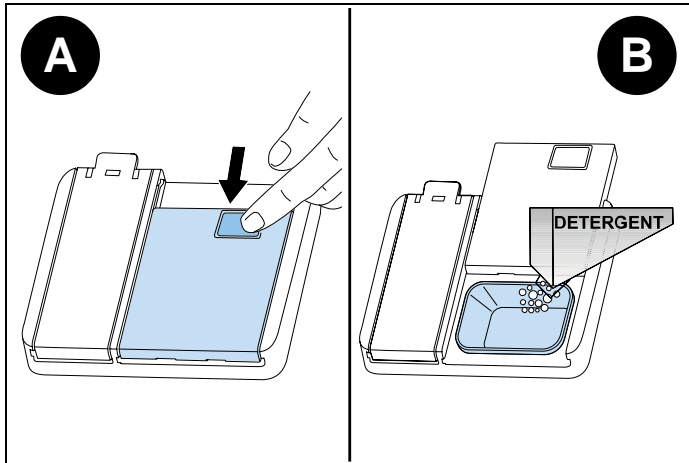

Fig. 66
- 1) Push the latch to open the detergent container as shown in the image (Fig. 66 A)
- 2) Pour/put the detergent into the dispenser (Fig. 66 B)